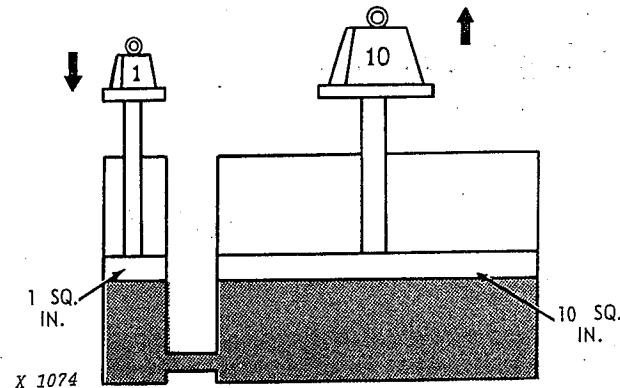

Fig. 4—Liquids Provide Great Increases in Work Force
**LIQUIDS PROVIDE GREAT INCREASES IN WORK FORCE.** Now let's take two more cylinders of different sizes and connect them as shown in Fig. 4. The first cylinder has an area of one square inch, but the second has an area of ten square inches. Again use a force of one pound on the piston in the smaller cylinder. Once again the pressure is